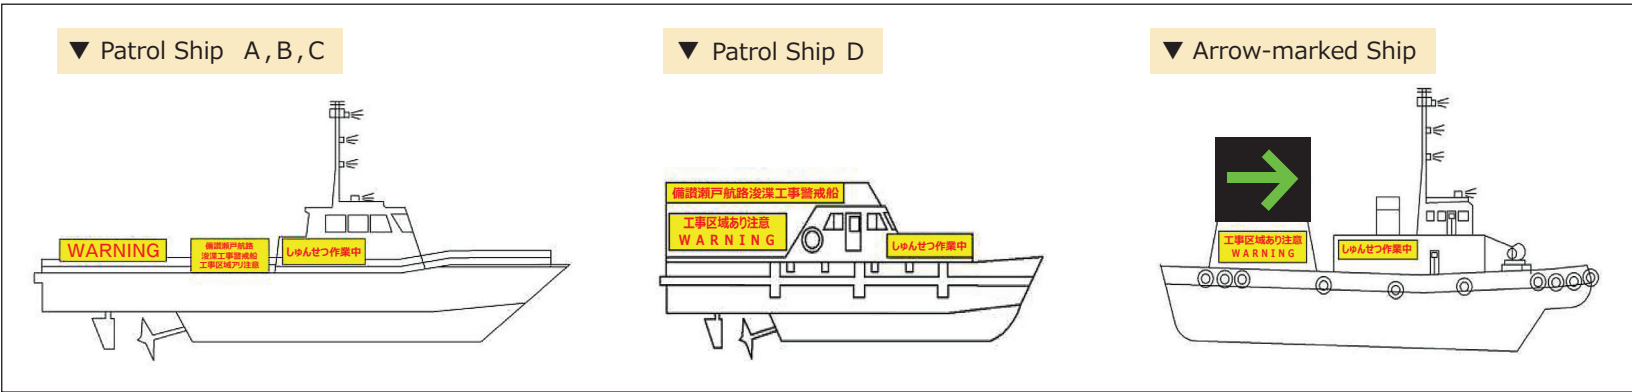
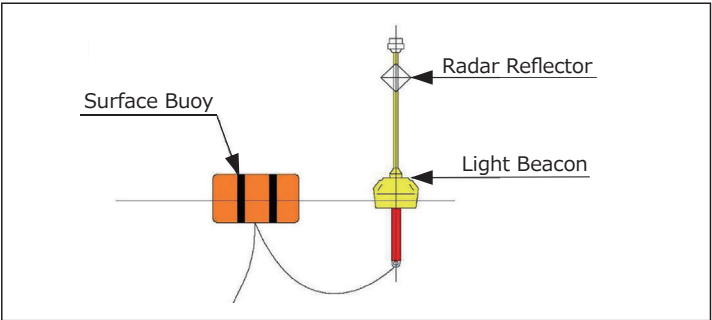

Fig. 4. Image of Patrol Ships & Arrow-marked Ship
Fig. 5. Surface Buoy & Light Beacon
- (4) 警戒船等は、図4のとおり標識を掲げます。矢印搭載船には可航水域を示す電光標示板を設置します。
- (5) 警戒船(A)～(D)には国際VHFを搭載しています。
(図4) 警戒船、矢印搭載船イメージ
(図5) 俵ブイ及び灯浮標
- (4) The patrol ships, etc., will display markings as shown in Fig.4. The arrow-marked ship will be equipped with an electrically-illuminated signboard indicating the navigable waters.
- (5) Patrol ships A~D will be equipped with Marine VHF Radio.
- (6) The pump dredging ship will drop anchor within the dredging work zone as shown in Table 1. A surface buoy and light beacon (with synchronized blinking) will be installed at the location of the pump dredging ship's anchor, as shown in Fig. 5, to clearly indicate the working zone.
- (7) At night, and on days when dredging work is not conducted, the dredging work ships will anchor outside the Bisan Seto Traffic Route. In the event of anchorage, ships will be lit with legally designated lighting and additional indirect lighting while anchored at night.
- (8) During the dredging work, the movements of the work ships and general vessels will be monitored, a Safety Management Office that coordinates with the relevant agencies will be established, and the safety of the marine area around the working zones will be ensured.
(图5) 航标及灯浮标